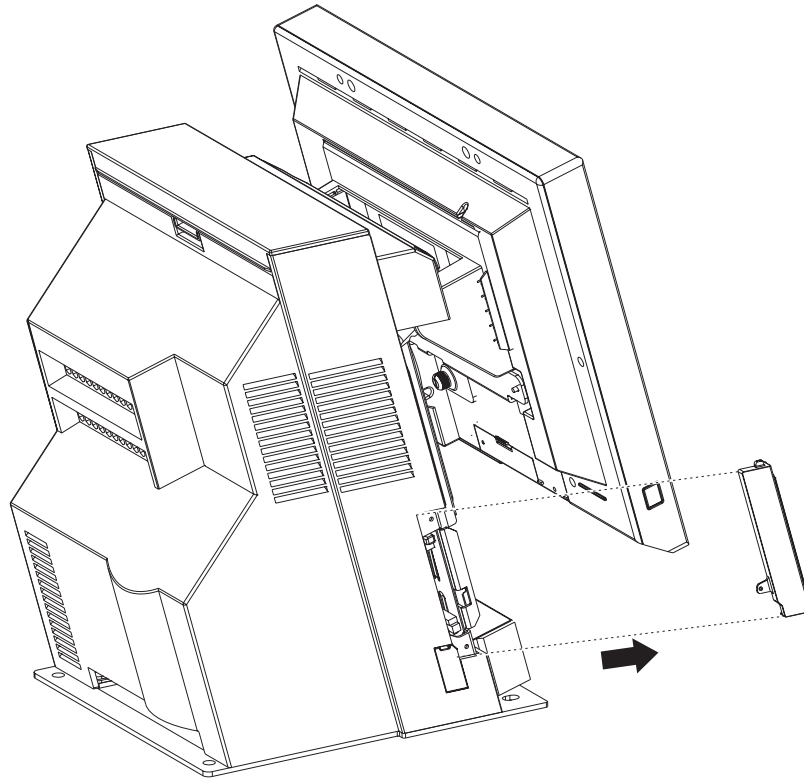

Figure 34. Removing the PC card adapter slot blank
3. Remove the door in the direction shown in Figure 34 on page 61.
3. Remove the PC card cover as shown in Figure 34.